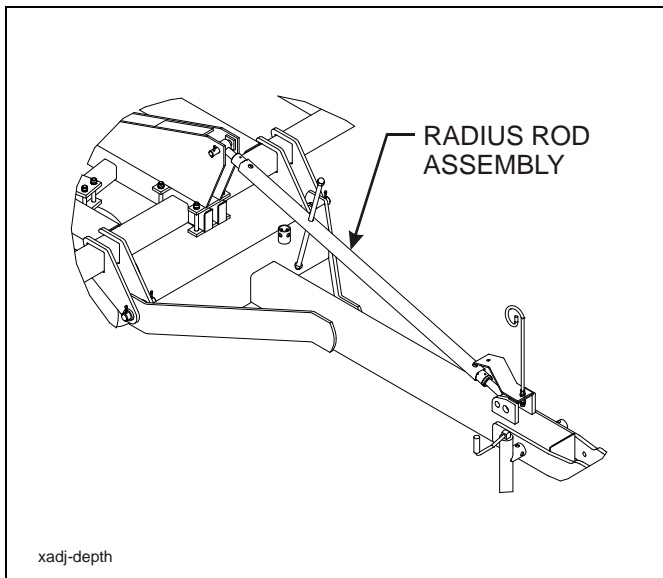

Figure 4-4: Adjusting Unit Working Depth
1. Raise the unit to take the weight off of the transport locks. Remove the transport locks from the lift cylinders (on the main frame only) (See Figure 4-4.)
2. Check the front to rear leveling of the frame. Adjust radius rod until frame is level at working depth and all sections of the machine are cutting at the same depth (See Figure 4-4.)